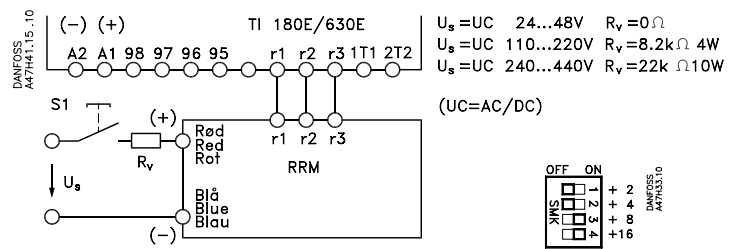

Fig. 11
- C: 3-off (r1,r2,r3) For remote reset module RRM. Connection (option) shown in diagram on RRM (fig. 11).